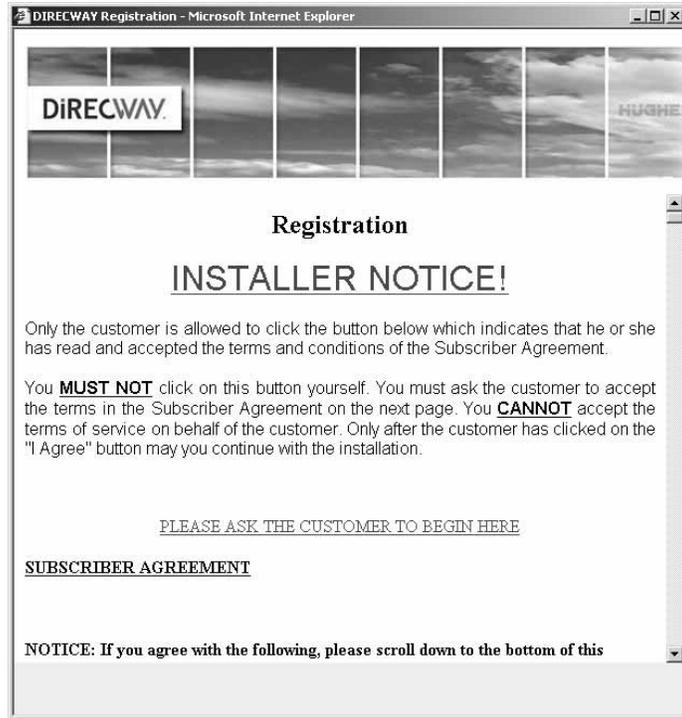

Figure 34: Accepting the subscriber agreement
30. If you are installing the terminal for a customer in the United States, ask the customer to review and accept the subscriber agreement shown in Figure 34.